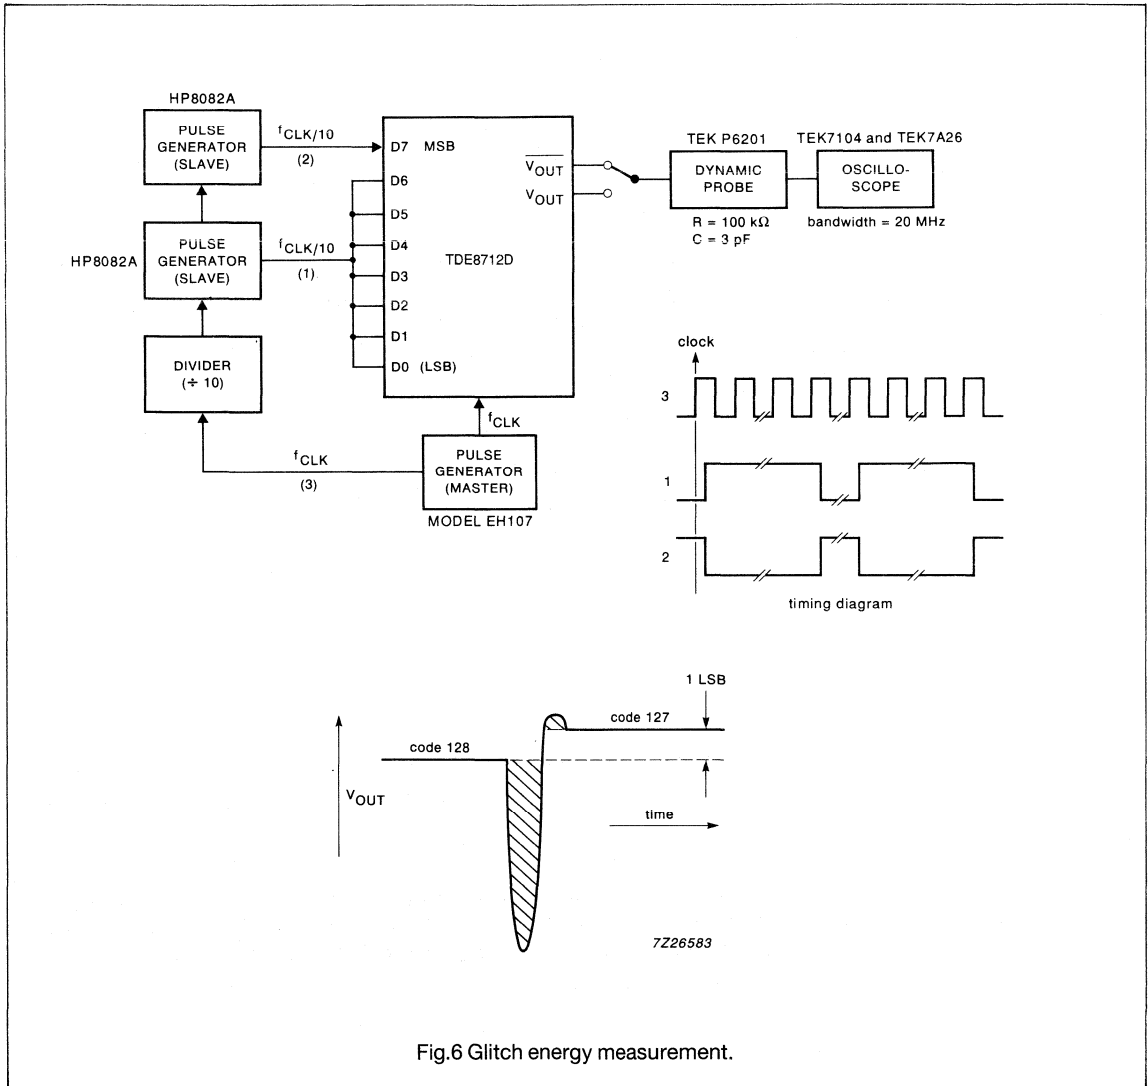

Fig.6 Glitch energy measurement.
Output transients (glitches; $f_{CLK} = 50 \text{ MHz}$; note 6; see Fig.6)
- The definition of glitch energy and the measurement set-up are shown in Fig.6. The glitch energy is measured at the input transition between code 127 to 128 and on the falling-edge of the clock.
Note to Fig.6